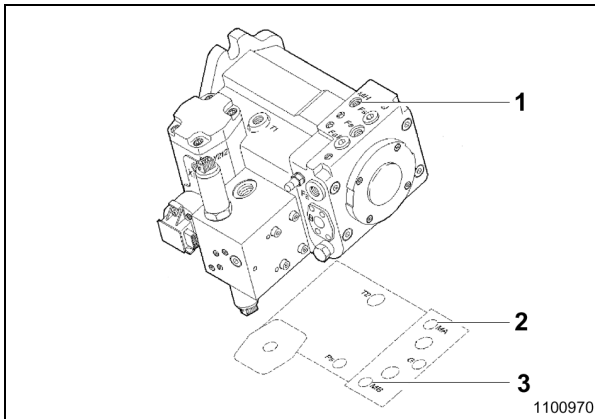

Fig. 3
- Connect the high-pressure gauge to points MH (1, Fig. 3) and MA (2) or to MB (3).